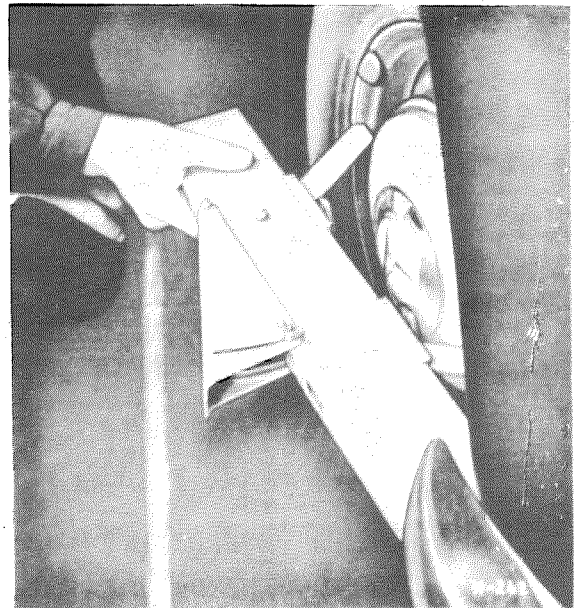

Fig. 40 — 3/26
- dd) Now place the gage against the wheel rim, set it exactly to the vertical position, and read off the value shown on the right-hand scale (one graduation = 15'). Example: 7° 45' (Fig. 40 — 3/27).